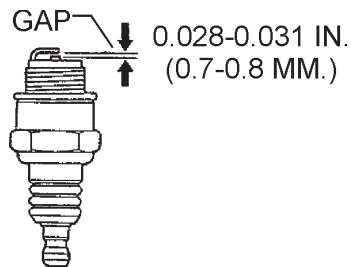

Figure 30. Spark Plug Gap
- Remove and clean the spark plug (Figure 30), then adjust the spark gap to 0.028 ~0.031 inch (0.6~0.7 mm). This unit has electronic ignition, which requires no adjustments.